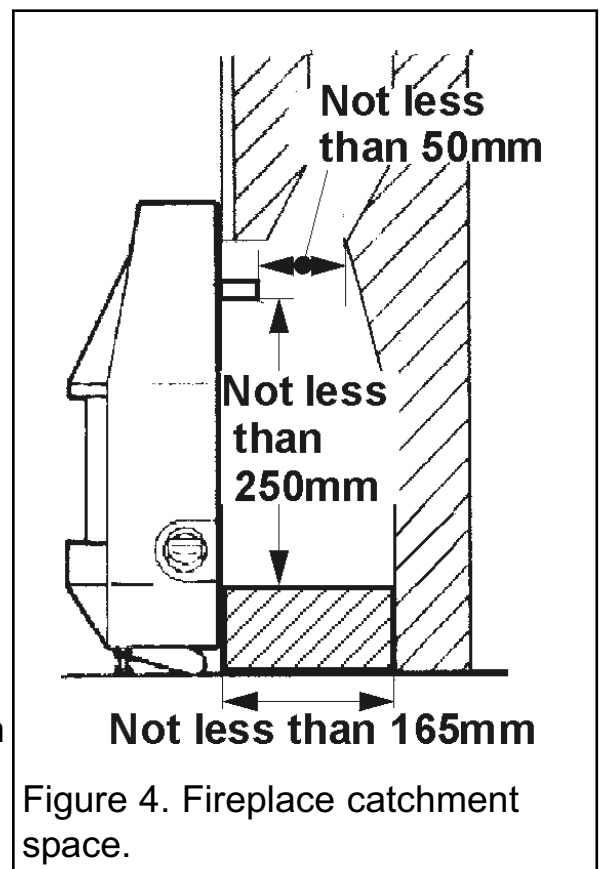

Figure 4. Fireplace catchment space.
On conventional flues the catchment space below the flue spigot must extend at least 250mm downward measured from the bottom of the flue spigot (See figure 4).
The bottom of the appliance must be at least 100mm above the finished floor covering. See figure 2. This requires the top of the opening to be at least 650mm above the finished floor covering. Any opening visible below the appliance may be closed in but the depth of the catchment space within the wall opening must be as shown in figure 4.
12. If the fire is fitted to a recessed fireplace, an extension flue spigot up to a maximum total length of 125mm may be used. The extension must be a tight fit over the flue spigot and be secured by two self tapping screws. Note the minimum clearance required as shown in figure 4.